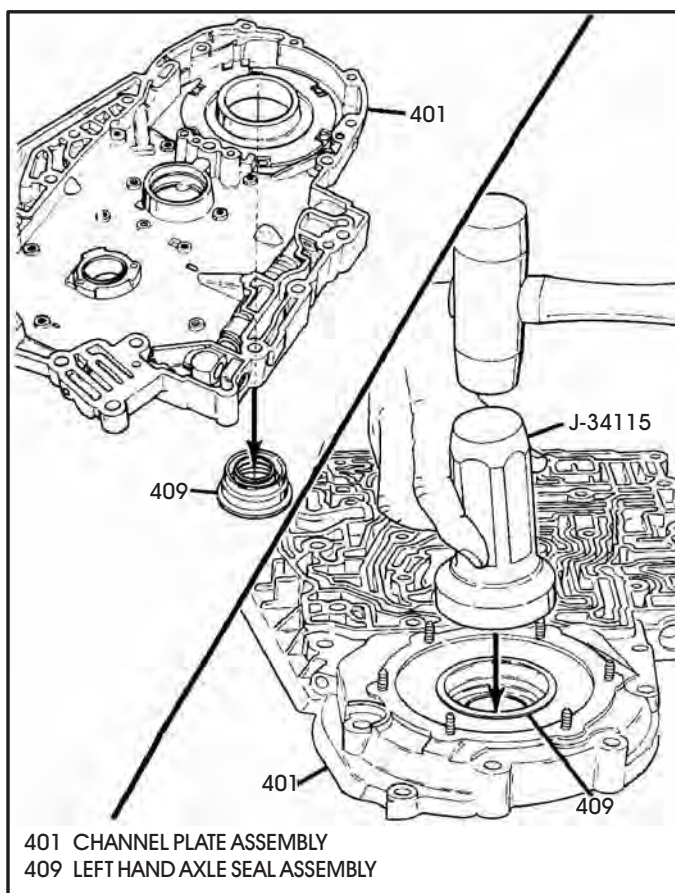

Figure 140
5. Remove the left hand axle seal from channel plate using proper seal driver (See Figure 140).
6. Install the left hand axle seal into the channel plate, using the J-34115 seal driver, as shown in Figure 140.